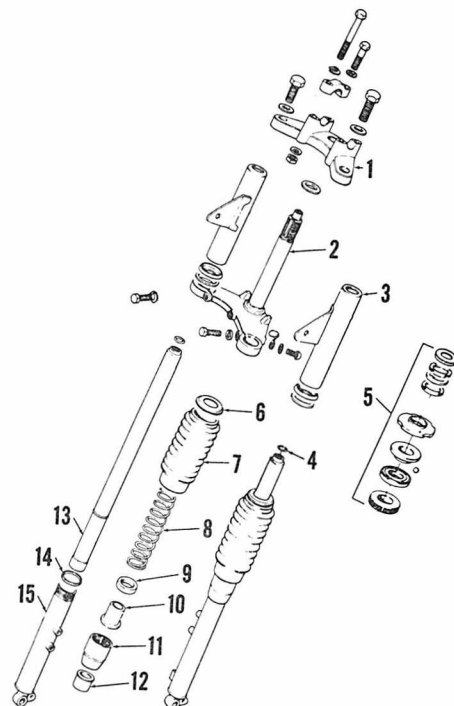

Fig. S10-7—Exploded view of front suspension system used on AC 50 models. Others are similar.
**SUSPENSION.** Front suspension units on all models contain 125cc of oil each. Front forks may be disassembled by clamping fork outer tube nut (11—Fig. S10-7) in a vise and turning the outer tube (15). See Fig. S10-8.